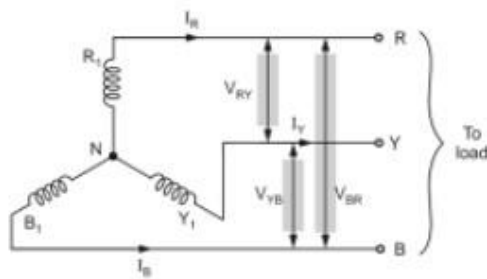

Fig. 1.5.4 Star connection
- Consider a star connected system as shown in the Fig. 1.5.4 see on next page.